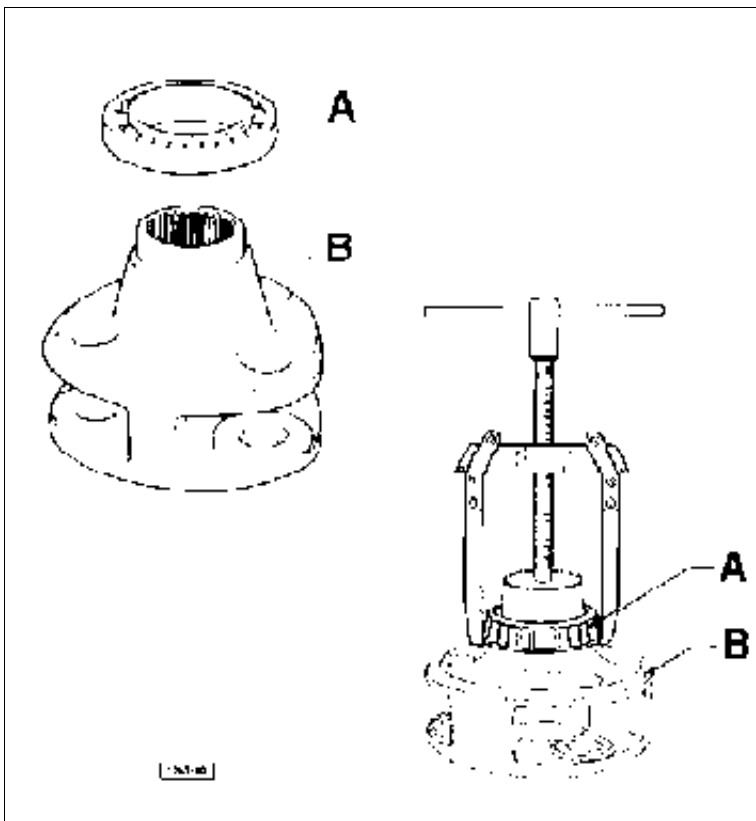

Fig. 13 - Removal of bearing from epicyclic hub flange.
- 3 - Remove the bearing **A** from the flange of the epicyclic unit **B**, using a suitable puller (fig 13).